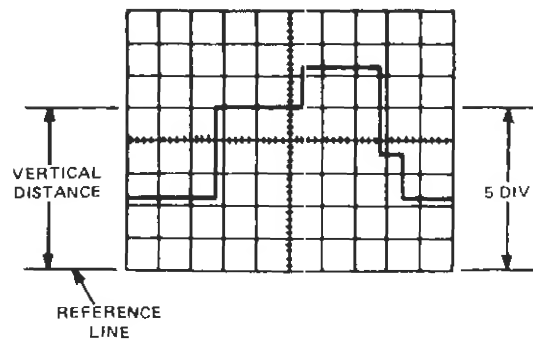

Figure 2-14. Instantaneous voltage measurement
2. Adjust the applicable TIME/DIV switch (20) or (21) for one complete cycle of waveform and set the VOLTS/DIV switch (11) for a trace amplitude of 4 to 6 divisions (see Figure 2-14).
3. Set the AC/GND/DC switch (13) to GND.
4. Use the appropriate Vertical Position control (14) or (15) to set the baseline on the central horizontal graticule line. However, if you know the signal voltage is wholly positive, use the bottommost graticule line. If you know the signal voltage to be negative, use the uppermost graticule line.
6. Use the Horizontal Position control (24) to position any point of interest on the central vertical graticule line. This line has additional calibration marks equal to 0.2 major division each. The voltage relative to ground at any point selected is equal to the number of divisions from that point to the ground-reference line multiplied by the VOLTS/DIV setting. In the example used for Figure 2-14, the voltage for a 0.5V/div scale is 2.5V ($5.0 \text{ div} \times .5\text{V}$).